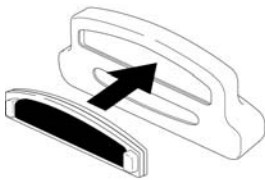

FIGURE 1
1. Choose either the Lint Remover or Fabric Brush and insert it into Rubber Accessory Housing as shown (FIGURE 1).